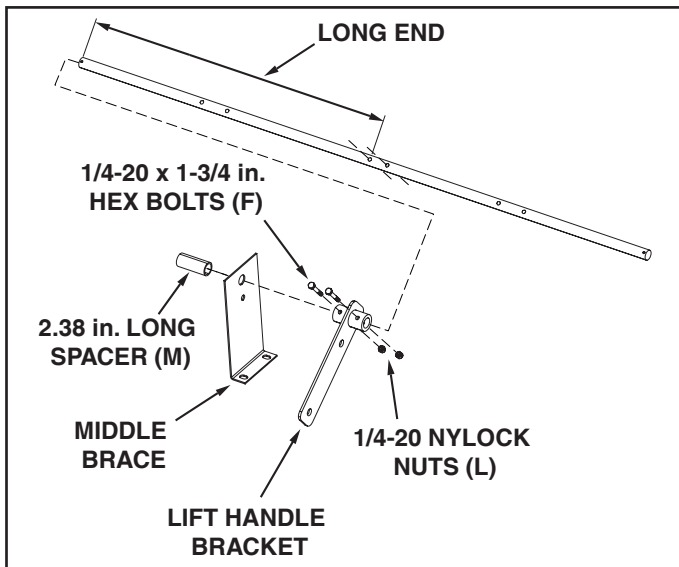

FIGURE 4
5. Fasten the lift handle bracket to the middle of the shaft using two 1/4-20 x 1-3/4 in. hex bolts and 1/4-20 nylock hex nuts. Turn the middle brace as shown. Slide the middle brace and then the 2.38 in. long tube spacer onto the long end of the shaft. See figure 4.